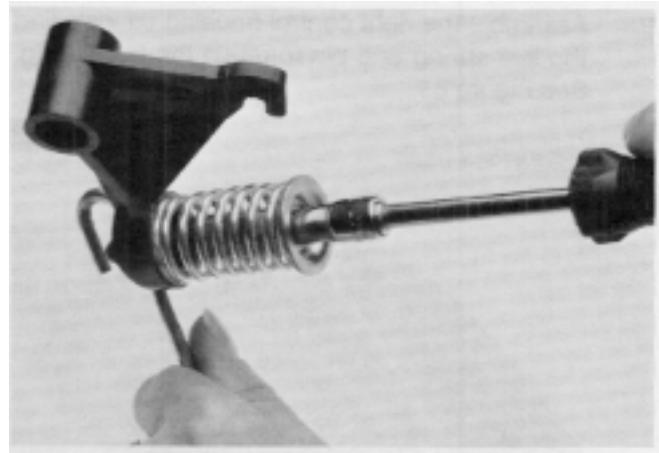

Figure 89
2. Place the spring onto the control pin. Place the spring retainer onto the spring and insert the screw into the control pin. Using the control link to prevent rotation of the control pin, tighten the flanged head screw until the retainer bottoms out on the control pin. See Figure 89.